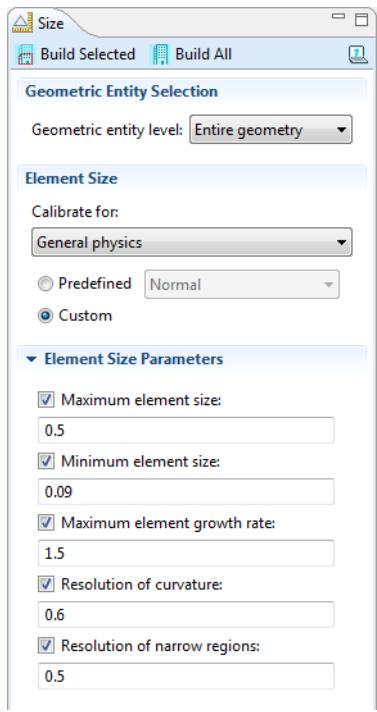

Figure 19-1: An example of custom element mesh sizes. You can also select Predefined element sizes.
- 1 In the **Model Builder**, click **Size** () to display the settings window. See Figure 19-1.